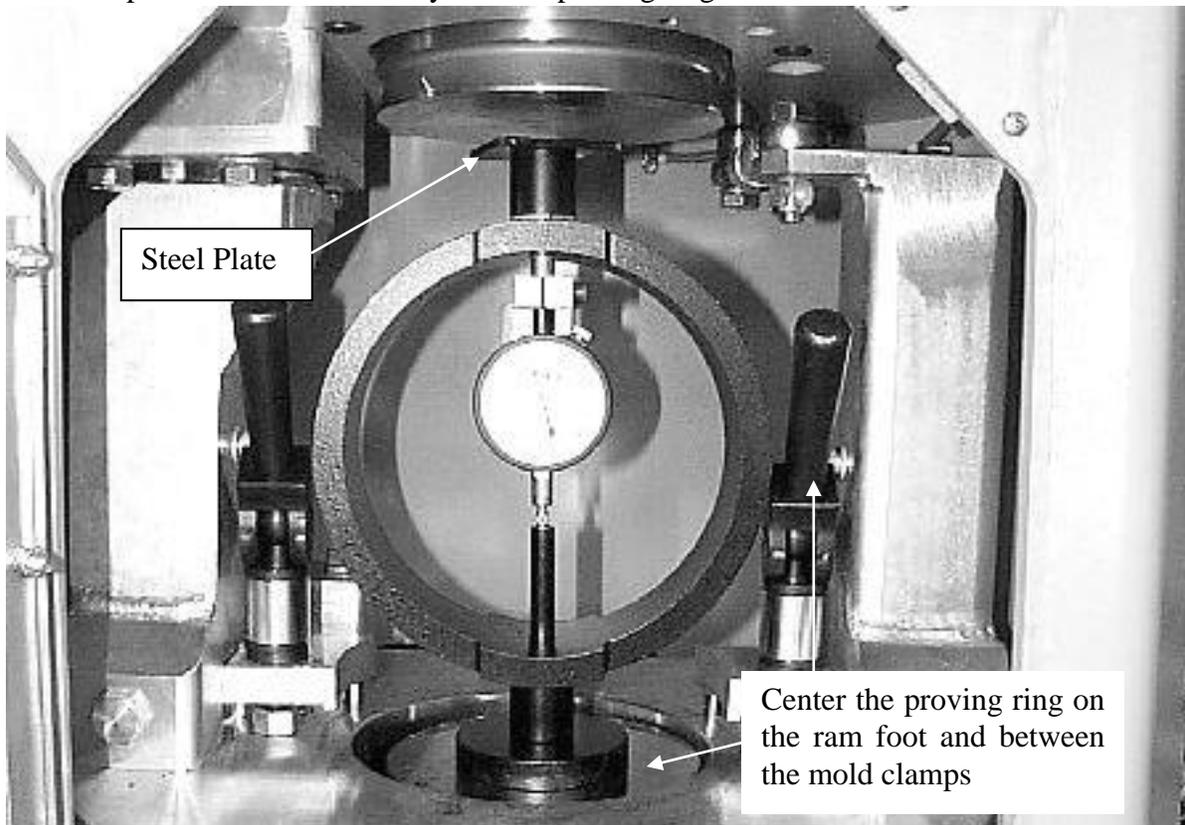

Figure 6.2: Proving Ring Placement
- Open the chamber door; place the proving ring on the center of the ram foot. Place the steel plate supplied with the proving ring on the top of the proving ring to protect the mold top. (Figure 6.2)